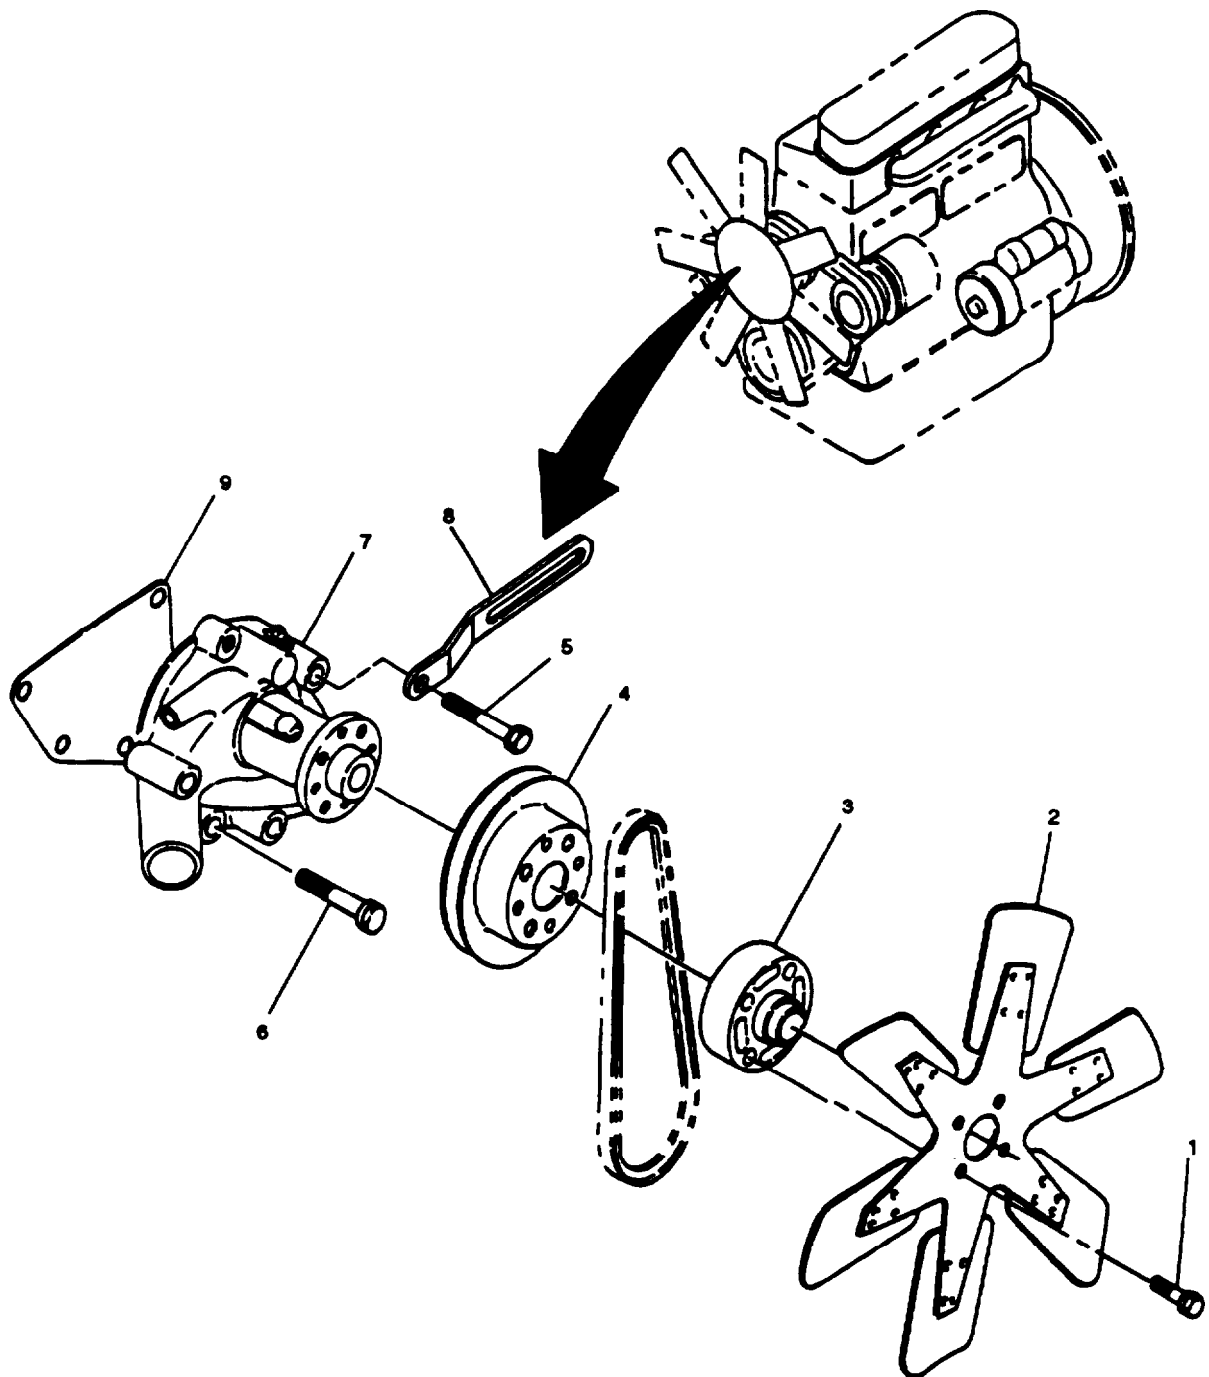

FIGURE 3-2. Water Pump
- d. Remove four screws (1, FIGURE 3-2) securing fan (2) spacer (3), and fan pulley (4) to water pump (7); remove fan, spacer, and pulley.
Ensure longer bolts (5, FIGURE 3-2) are installed in the location noted during removal. Failure to observe this caution will result in pump not being secured properly.